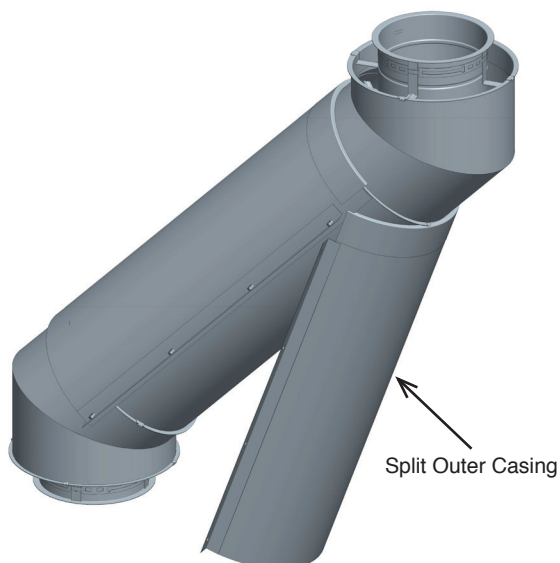

Figure 29 - Step 13 - Install of Split Outer Casing
13. Install the split outer casing that covers from the outer wall of the inlet end section to the outer wall of the outlet end section. See **Figure 29**.